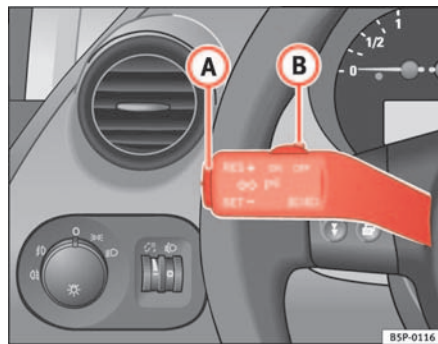

Fig. 140 Turn signal and main beam lever: Switch and rocker switch for CCS
- Push the switch   fig. 140 **(B)** to the left to the position **ON**.